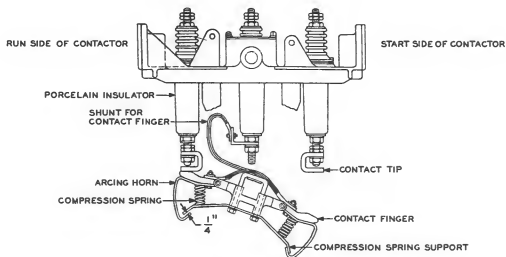

Fig. 11 — Contactor Mechanism on Form K22 Starter (in RUN Position)
- With the starter handle in the RUN position and held there manually, there shall be a clearance of approximately 1/32 inch between the notch in the latch lever and the associated pin, and approximately 1/4 inch between the compression spring support and the arcing horn on the RUN side. The latter is shown in Fig. 11.
(1) Hold the handle as far in the RUN position as it will go and adjust the setscrew on the RUN side to provide the 1/32-inch clearance between the notch in the latch and the associated pin. This setscrew is underneath the casting that supports the contactor mechanism. Then adjust the pressure of the RUN contacts by setting the stationary RUN contacts to provide the 1/4-inch clearance between the compression spring support and arcing horn shown in Fig. 11.